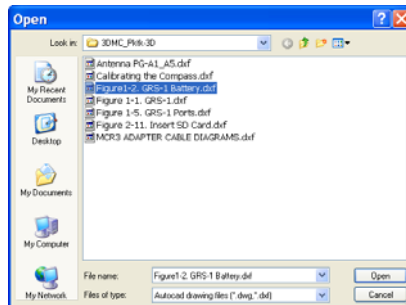

Figure 3-3. Open AutoCAD 3D Points File
2. Navigate to the location of the desired file, select it, and click **Open** (Figure 3-3).